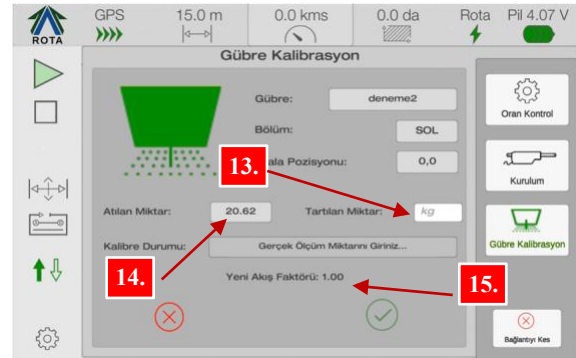

Figure-5/E
- Press update to recalculate flow factor (**Figure-5/E-15**)